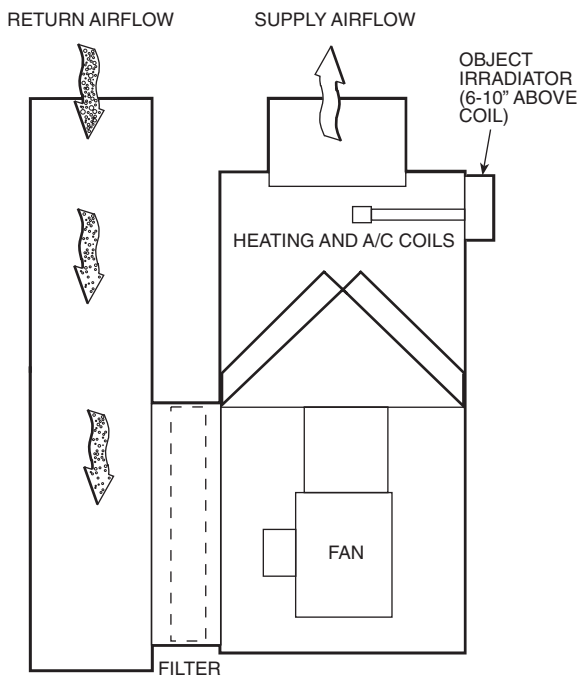

Fig. 2 — UV Germicidal Object Irradiator Installation Location
2. Evaluate the ideal area for locating and installing the Fusion UV Germicidal Object Irradiator. Ensure that the UV Germicidal Object Irradiator will fit into the supply section. Space required internally is approximately 12 in. for the size 012 unit and 18 in. for the size 018 unit. See Fig. 2.